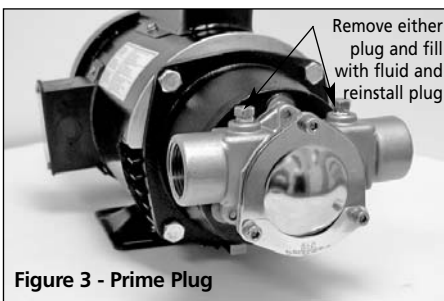

Figure 3 - Prime Plug
1. All pumps must be primed before start-up and filled with fluid (See Figure 3). Never operate a pump unless it is secured to a solid foundation and all safety shields are installed.
- k. All pumps must be primed before start-up and filled with fluid (See Figure 3). Never operate a pump unless it is secured to a solid foundation and all safety shields are installed.